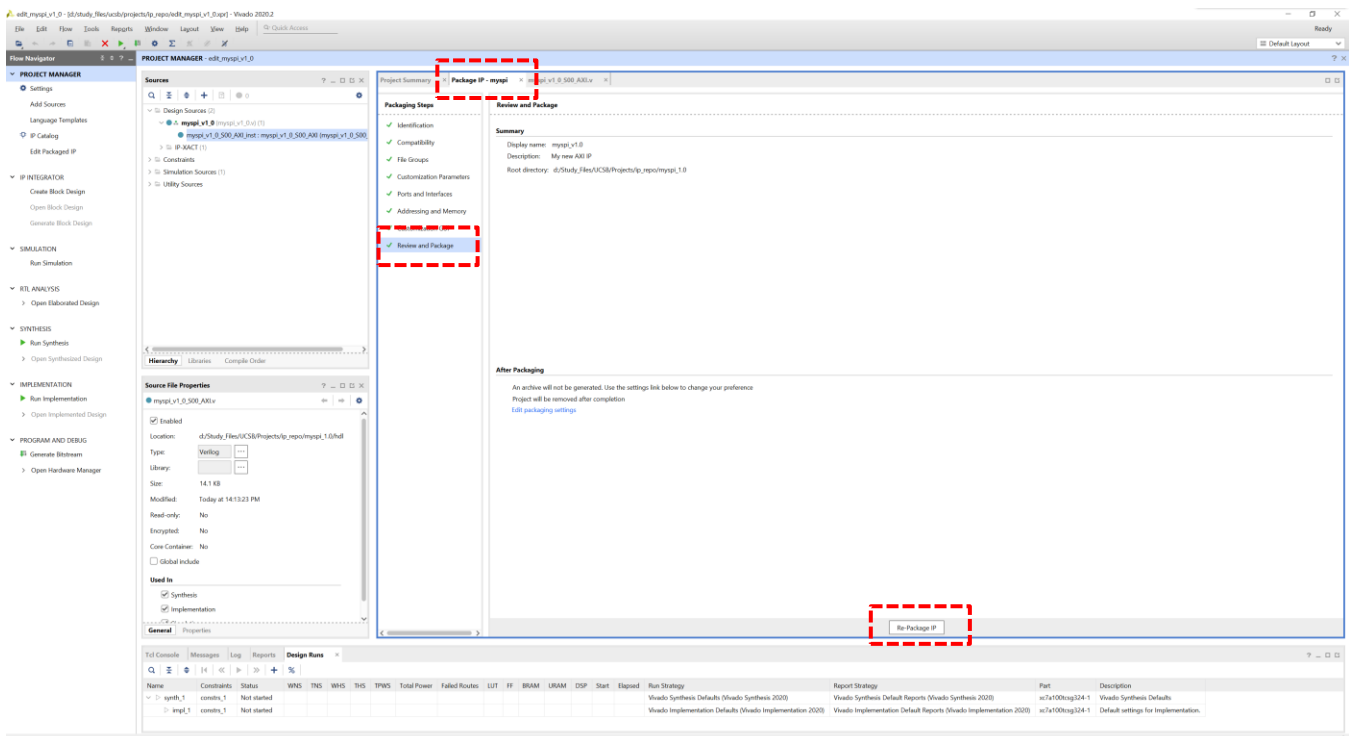

Figure 4: Repackaging IP.
- 1) As in Figure 4, click “Package IP - myspi”, go to “Review and Package” and click “Re-Package IP” (Note, this does nothing here since you haven’t modified the IP). Click “close” in the popped window and return back to your original project window.